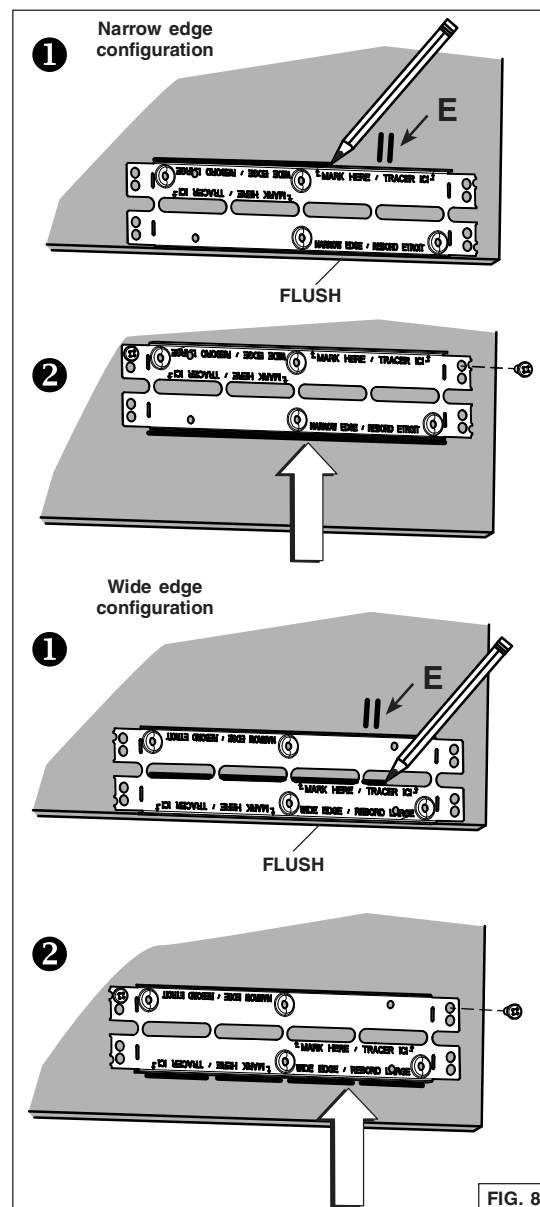

FIG. 8
5. Locate the Ease of Install hooks (circled in FIG. 7) on the unit. Temporary insert the unit in the cabinet, while holding the unit, mark the position of the Ease of Install hooks (shown as **E** in FIG. 8 on next page) on both cabinet side walls. Remove the unit.
6. Install the cabinet brackets as follow (FIG. 8):
- 1 Align the bracket flush with the bottom of the right cabinet side panel, with the hooks marked position (E) between the bottom embossed holes. For the narrow edge configuration, trace a line on the top of the bracket. For wide edge configuration, trace a line at the bottom of the central slots.